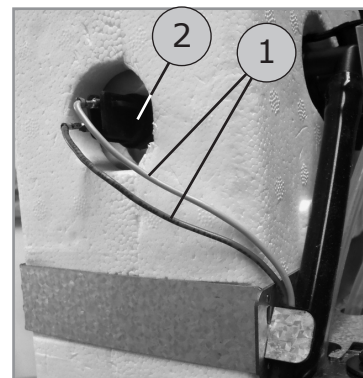

Figure 36
4. Loosen cables (1, figure 36) to the level sensor (2) and mark them so that they can be remounted in the correct place.